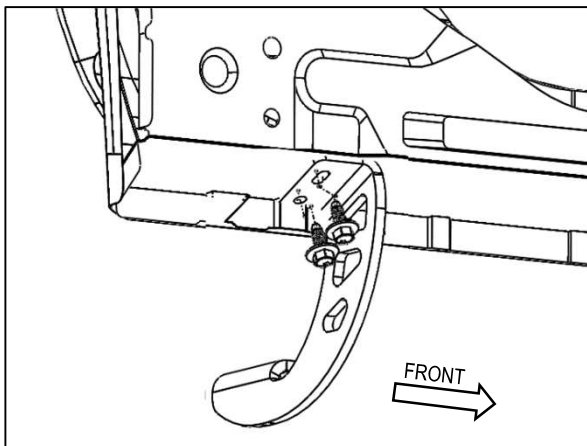

Figure 6
Step 4. Hand start the rear bracket to the vehicle by using the supplied M8 SEMS bolts. Figure 6.